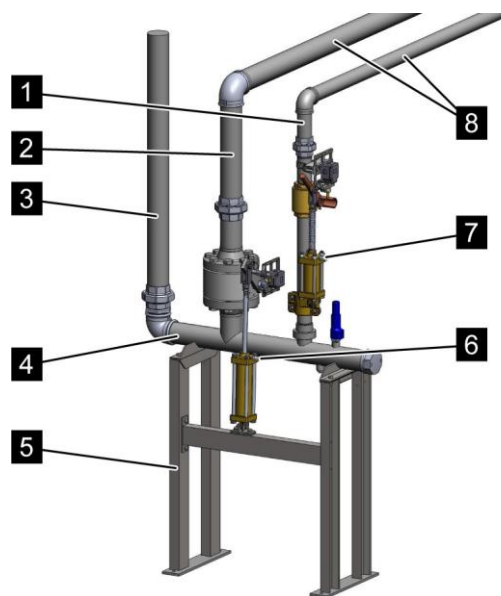

Fig. 102: Mounting selector valves DN65/DN80/DN100 (2 1/2"/3"/4")
1. ➔ Bolt the bracket (Fig. 102/5) onto the floor.
2. ➔ Connect the outlet pipes (Fig. 102/1+2) of the selector valves to the nozzle pipe system (Fig. 102/8).
3. ➔ Connect the manifold (Fig. 102/3) to the distributor (Fig. 102/4).
4. ➤ Connect the pilot line from the pneumatic release device (PAE) to the connections of the pneumatic cylinders (Fig. 102/6+7).